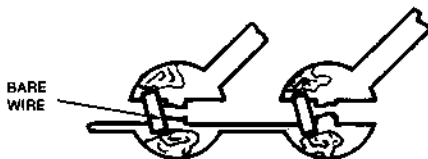

Fig. 1-15. Repairing cut programming pads.
3. Item 37 and/or Item 38 may be cut to change the device number. Use Table 1-4 to determine which pads to cut for the device number desired. Use a sharp knife and cut the silver-colored conductor only enough to break continuity. Use care to avoid cutting the adjacent pathwork. (Note: If you wish to repair a path cut previously, solder a short bare wire between the pads, as shown in Fig. 1-15.)